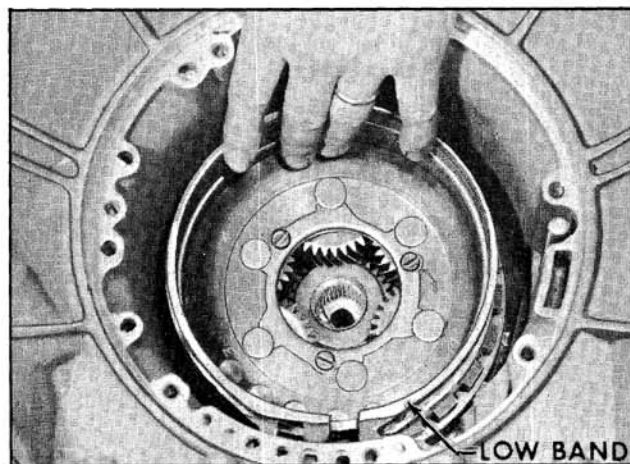

Fig. 6-504 Installing Low Band
2. Install low band into case. (Fig. 6-504)